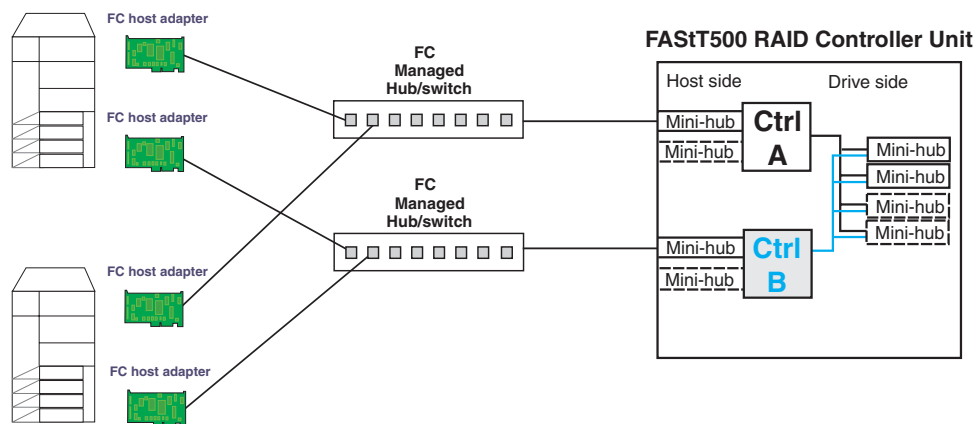

Figure 124. Passive controller B
1. One controller is passive. In the example shown in Figure 124, controller B is passive.